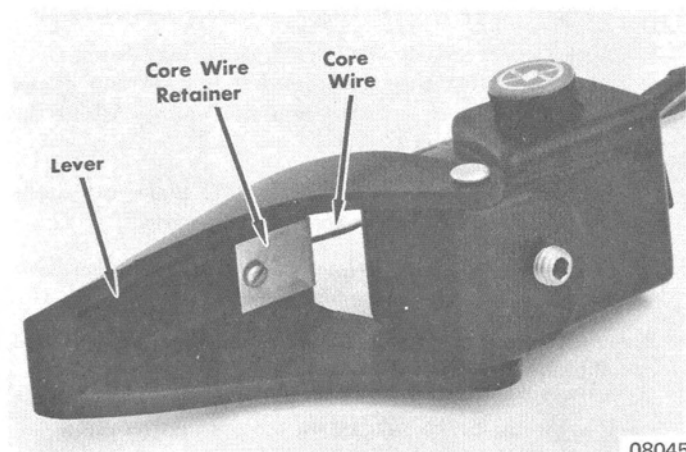

Figure 5. Control Lever
2. Remove core wire retainer from lever and lift core wire from lever. (Figure 5)
4. Position core wire in control lever and secure with retainer and screw. (Figure 5)